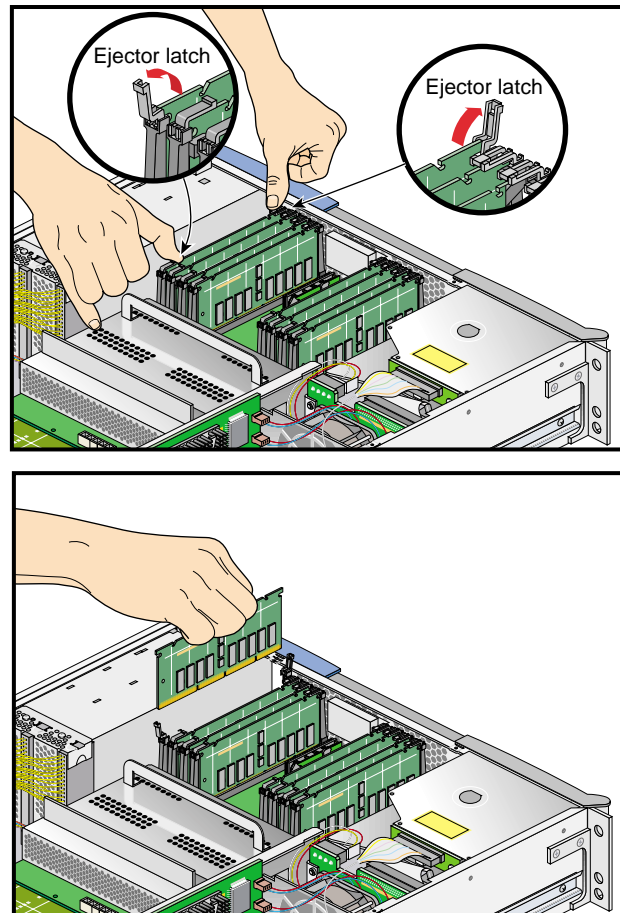

Figure 6-30 Removing a DIMM
7. Remove the DIMM, as follows (see Figure 6-30):